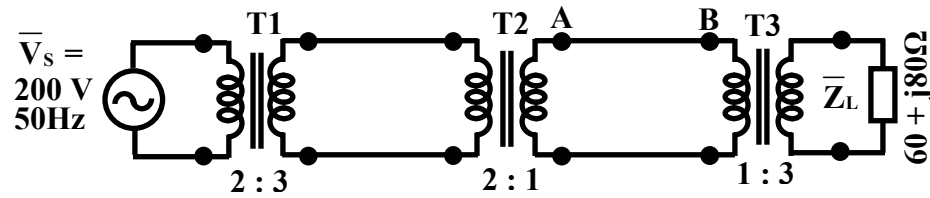

Figure 23.11:
3. In the circuit shown in Figure 23.11, T1, T2 and T3 are *ideal* transformers.